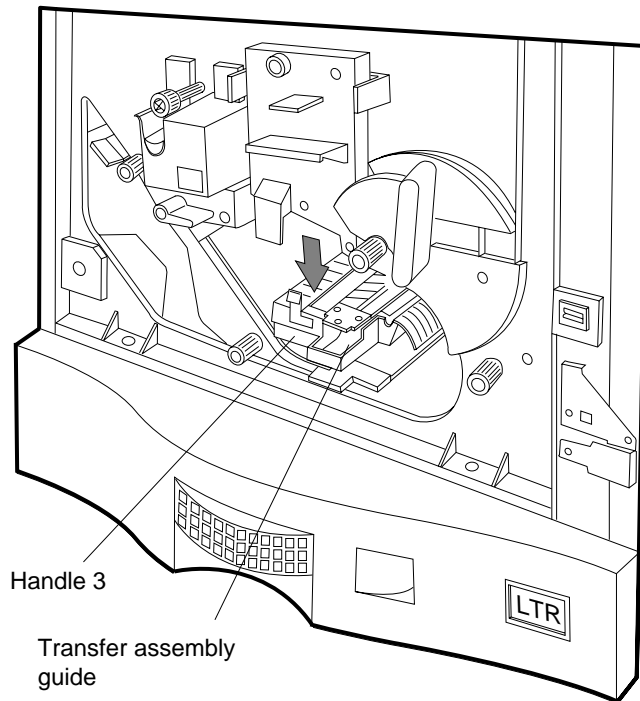

Figure 4-23 Handle 3 and Transfer Assembly Guide
2. While pulling Handle 3, carefully lower the transfer guide as shown in Figure 4-23.